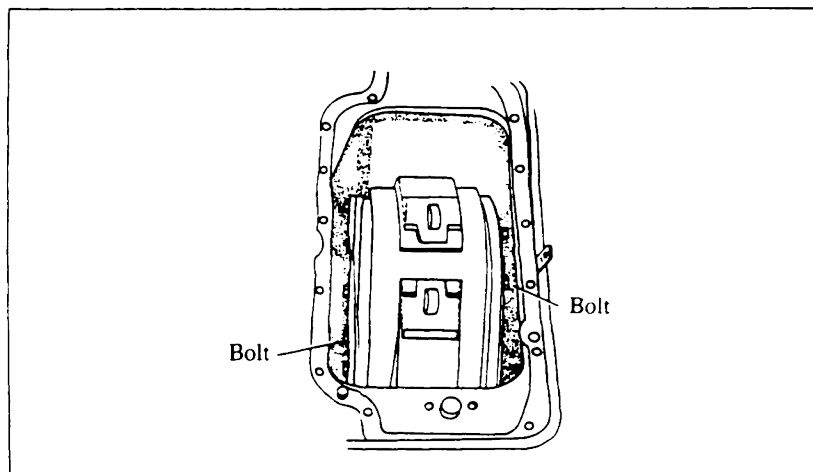

FIGURE 19. STEERING CLUTCH REMOVAL
Step 1. Remove as many bolts as you can reach easily (Figure 19). You should be able to remove approximately five bolts before rotating the clutch.